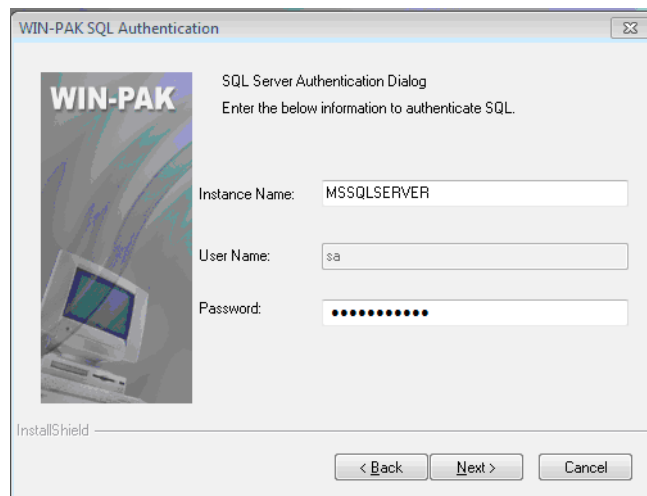

Figure 2-8 SQL Server Authentication
- Click **Next**. Figure 2-8 appears. Go to step 2.